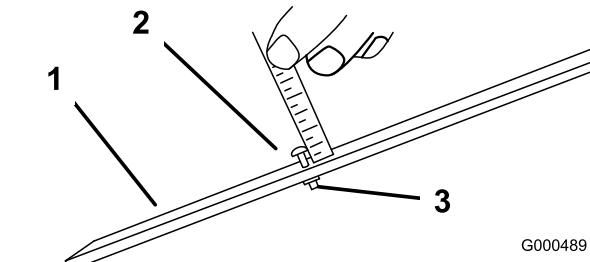

Figure 52
3. Loosen the nut on the gauge bar (Figure 52) and set the adjusting screw to the desired height-of-cut. The distance between the bottom of the screw head and the face of the bar is the height-of-cut.